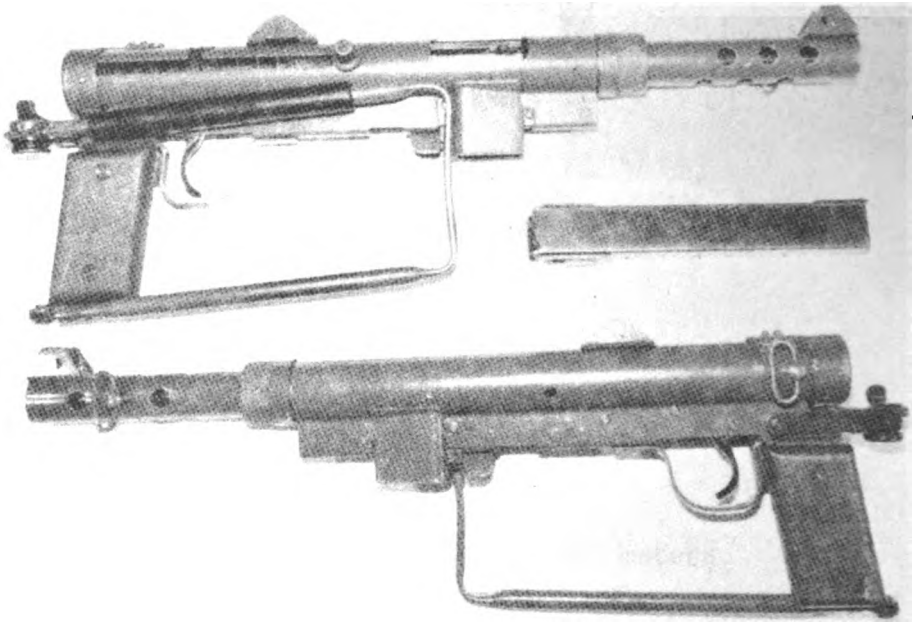

Figure 9
9. Identify the M45B. (See fig. 9.)